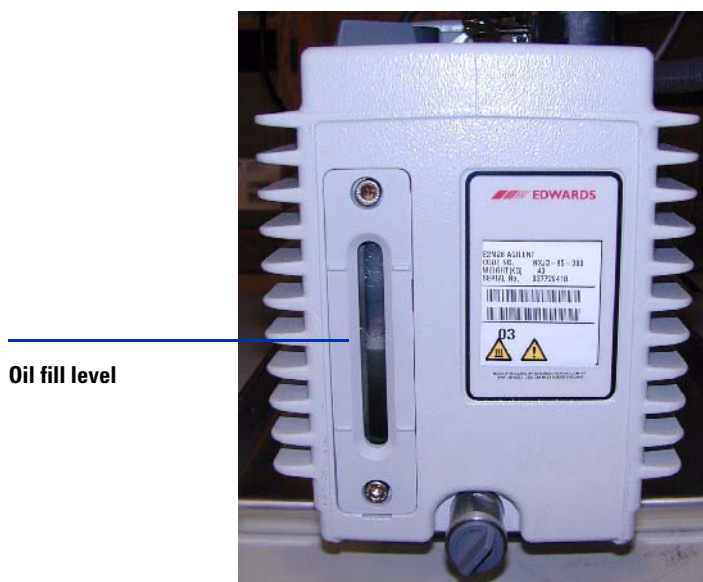

Figure 86 Fluid level window on the rough pump
- Check the fluid level in the window of the rough pump. The fluid level should be between the marks for Max and Min (see Figure 86).